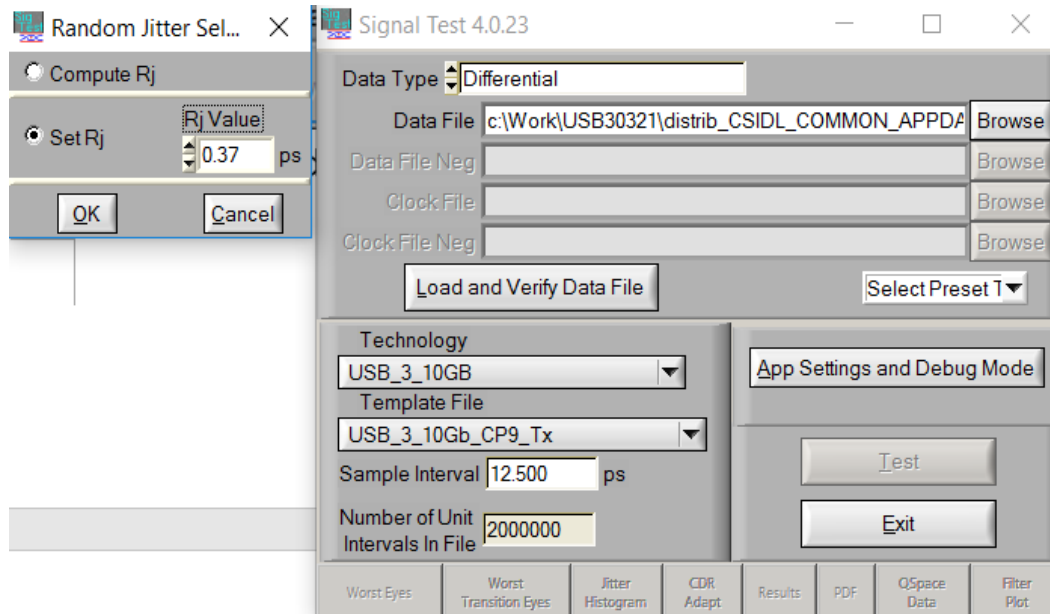

Figure 71 SigTest tool settings for measuring DJ, TJ, Eye Width and Extrapolated Eye Height
- 12 Load the waveform file. Select the options for Technology and Template File as shown in Figure 71.